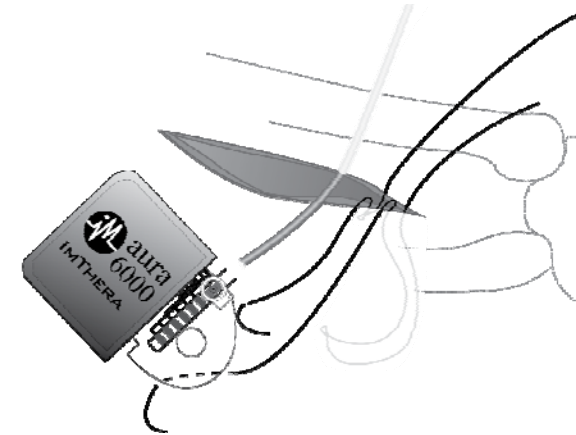

Figure 3
- b. Place and tie a 2-0 non absorbable braided suture in the deep fascia at the inferior IPG anchor hole location leaving long suture tails (see Figure 3). Cut the needle from the suture.
- d. Thread the inferior and superior sutures through the inferior and superior IPG anchor holes respectively (see Figure 3).